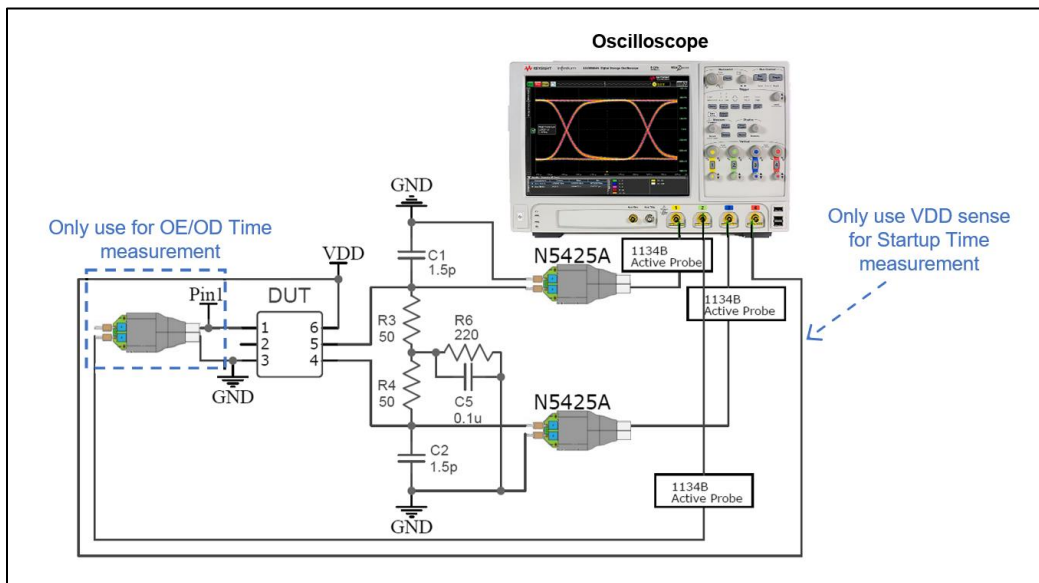

Figure 8. Test setup to measure FlexSwing Waveform Characteristics, Current Consumption^[16], Output Enable/Disable Time, and Startup Time
- 13. See Figure 8 for the test setup to measure LVPECL Current Consumption with Termination 1 or without Termination.